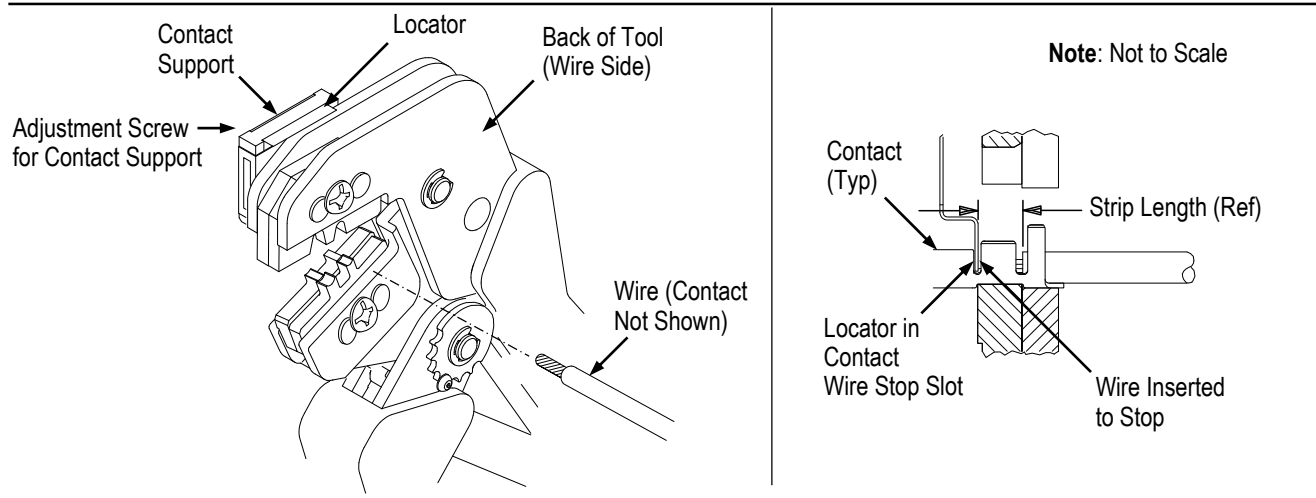

Figure 3
#### 4. CONTACT SUPPORT ADJUSTMENT (Figure 3)
Refer to the table in Figure 1 and select wire of the specified size and insulation diameter. Strip the wire to the length indicated in Figure 1, taking care not to nick or cut wire strands. Select an applicable contact and identify the appropriate crimp section according to the wire size markings on the tool. Refer to Figure 3 and proceed as follows:
- Position the contact so that the mating end of the contact is on the locator side of the tool, and so that the open “U” of the wire and insulation barrels must face the top of the tool. Place the contact up into the nest so that the movable locator drops into the slot in the contact. Refer to Figure 3. Butt the front end of the wire barrel against the movable locator.
- Insert stripped wire into contact insulation and wire barrels until it is butted against the wire stop, as shown in Figure 3.
*The crimped contact may stick in the crimping area, but the contact can be easily removed by pushing downward on the top of the locator. See Figure 3.*